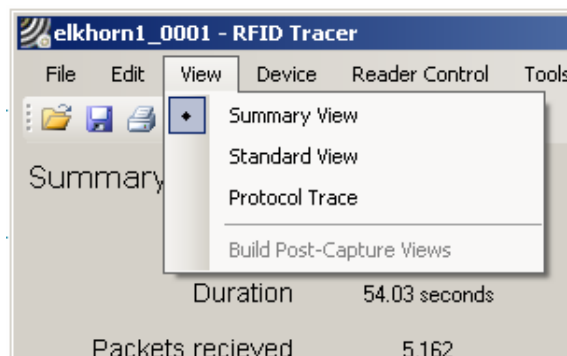

Figure 11 View Menu
Step 2: Select views that allow users examine RFID data from a number of different perspectives, as shown in Figure 11. Views are selected from the View menu of the main window. The live data views display data as the packets arrive from the module with a minimal amount of processing. Figure 12 shows the three live data views supported by RFID Tracer application.